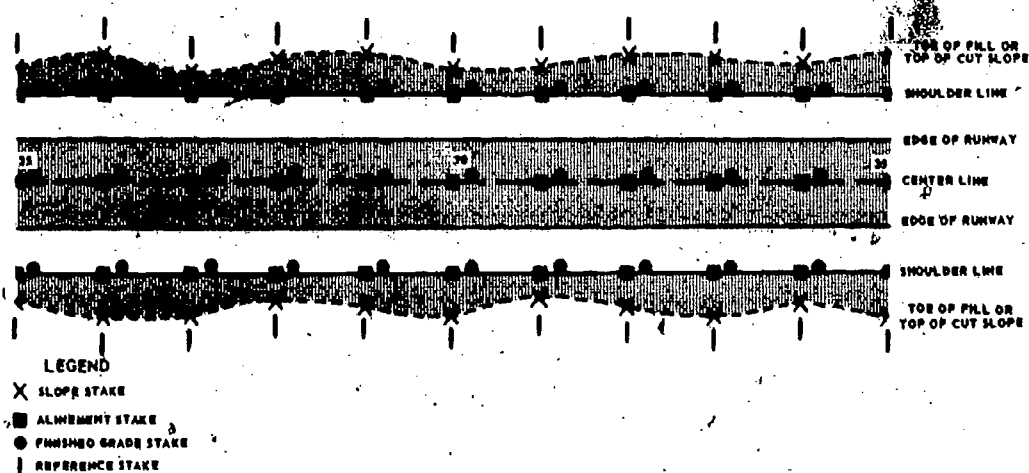
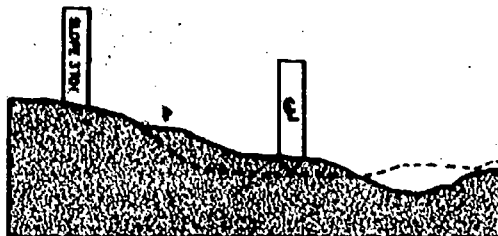

Fig 3-12. Plan view of stake placement.
Fig 3-13. Slope stake.
c. Shoulder stakes. Shoulder stakes mark the outer edges of the shoulders (fig 3-12). They are set at right angles to the centerline on the shoulder line. Shoulder stakes are set with the board side facing the centerline of the road. The same station numbers are placed on the back of shoulder stakes as are on the centerline stakes. The amount of cut or fill is marked on the side of the shoulder stake facing the centerline; this mark represents the amount of cut or fill at that location in relation to the finished grade of the outside edge of the shoulder or ditch. The horizontal distance from the shoulder stake to the centerline may be placed underneath the cut or fill figure on the shoulder stake. In figure 3-12, the stakes marking the shoulder line are alignment (hub) and finished grade (blue top) stakes rather than ordinary cut and fill stakes. Hubs and blue tops are discussed later.
d. Slope stakes. Slope stakes are set at the intersection of the planned slope with the original ground. They indicate the earthwork limits on each side of the centerline. Minimum areas to be cleared and grubbed extend outward about 6 feet from the slope stakes. Figure 3-13 shows a slope stake set on the edge of a cut. (A centerline stake, marked \ominus , is also shown.) The dotted lines indicate the outline of a cross section of a road and its banks. The slope marked on
the stake is 3 to 1. Slopes are given in ratios of horizontal distance to vertical distance. Thus, in the cut in figure 3-13, for every 3 feet that the bank is cut in the direction of the centerline of the road, the bank goes down 1 foot toward the shoulder of the road, or 3 feet horizontal for 1 foot vertical. If the same 3 to 1 slope were placed at the bottom of a fill, it would mean that for every 3 feet out from the shoulder, the height of fill should drop 1 foot below the top of the shoulder of the road. If a slope stake does not specify the slope to be carried on a bank or fill, you will slope from the edge of the construction to the point at which the stake meets the ground. Figure 3-13 shows the slope on only one side of the road at a particular point. Another slope stake will be on the opposite side of the construction site (fig 3-12). The slopes are not necessarily the same on both sides of the construction site.
h. Reading stakes properly. As mentioned earlier, reading stakes correctly is one step in doing an efficient job of grading. Failure to read a stake correctly can cause you extra work and delay an entire job. If you see a stake that does not mean anything to you, or if you are in doubt about the markings on a stake, do not go ahead blindly; stop and get squared away. If necessary, ask the foreman in charge of the job for instructions. Figures 3-12 and 3-16 show a cross section of construction work (which could be either a road or an airfield) with stakes and markings. Study these illustrations carefully; they show the placement of the main types of stakes discussed in this section.